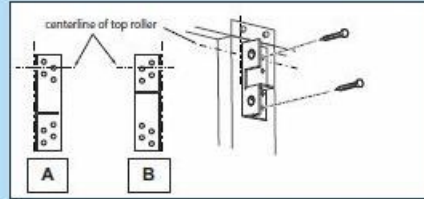

FIG 2-8 Examples of door bracket positioning.
- Align door bracket centered on your vertical centerline (Fig. 2-8).